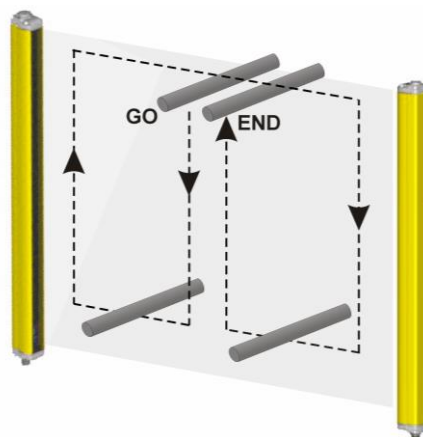

Figure 17 – Scheme for checking the function
- The AOPD remains in OSSD OFF state (➡) during beam interruption along the entire detection zone, using the suitable “Test piece” and following the Figure 17 scheme. The suitable “Test Piece” has one dimension identical with the resolution of the AOPD, a cylinder with a 14 mm diameter for a light curtain with a 14 mm resolution for example.